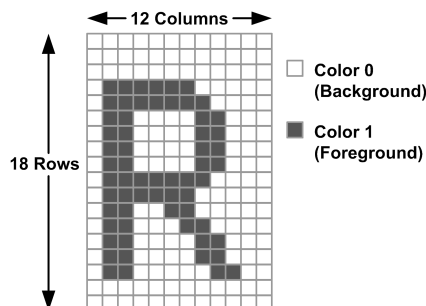
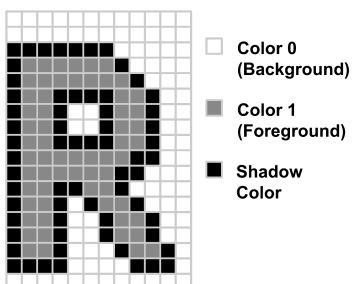

Figure 17. Two-Color Character
Figure 24. Bordering
Each character is defined as a 12 column by 18 row matrix of picture elements, or "pixels". The character font is shown in Figure 17 through Figure 24. There are two types of characters defined in the character ROM:
1. Two-color: There are a total of 384 two-color characters in 6 banks (banks 0, 1, 2, 4, 5 and 6). Each pixel of these characters is defined by a single bit value. If the bit value is 0, then the color is defined as "Color 0" or the "background" color. If the bit value is 1, then the color is defined as "Color 1", or the "foreground" color. An example of a character is shown in Figure 17. The grid lines are shown for clarity to delineate individual pixels and are not part of the actual displayed character.
4. **Bordering**—A border can be added to the two-color characters. When a character is bordered, a border pixel is added at every horizontal, vertical or diagonal transition between color 0 and color 1. See Figure 24. The color of the border is determined by the value in the color palette register EF3 (normally black).